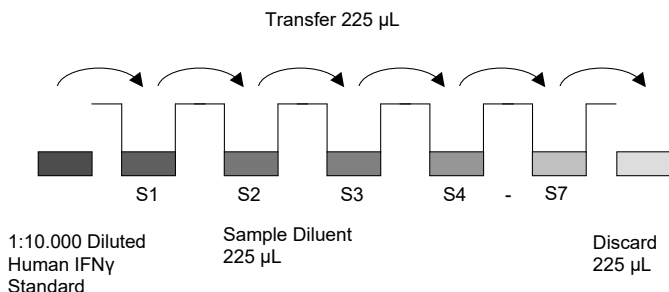

Fig. 8 Dilute standards - tubes
- Repeat serial dilutions 5 more times thus creating the points of the standard curve (see Figure 8).